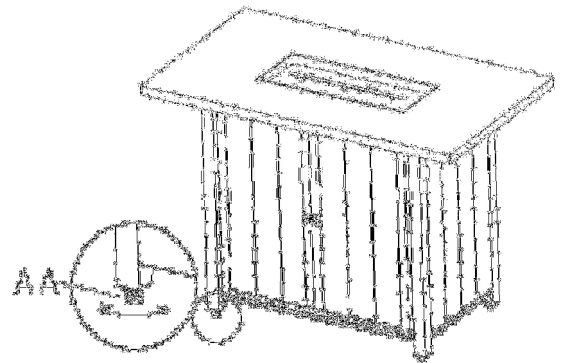

Figure 6
6. Turn over the table, use adjustable leveler (AA) to make sure the table was level,(see figure 6)